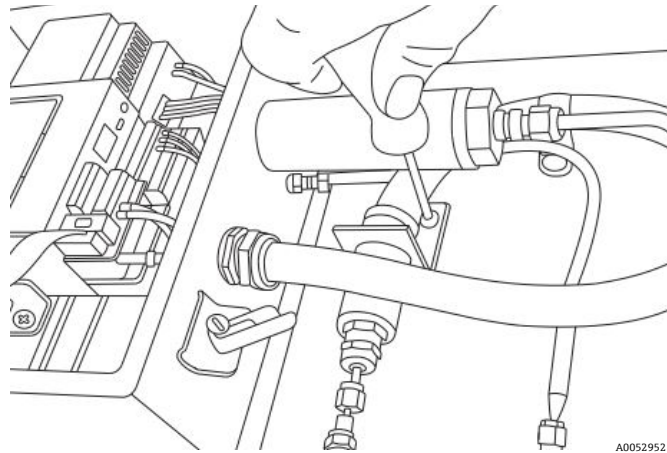

Figure 86. Remove conduit bracket
7. Remove the conduit bracket screws (x2) with a 5/32 in. Hex driver. Refer to Figure 86.